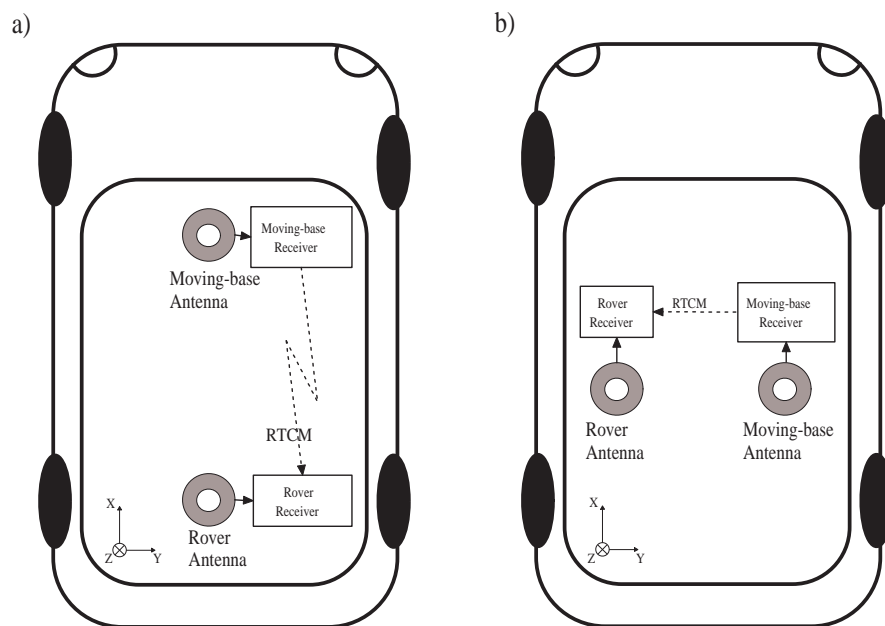

Figure 2-2: Moving-base attitude determination setup. a) default configuration.
The heading and pitch of a vehicle can be derived from the orientation of the baseline between a base and a rover antenna when both antennas are attached to the vehicle. The base antenna is connected to a first receiver configured as RTK moving base station. The rover antenna is connected to a second receiver configured as RTK rover and accepting the RTCM stream from the first receiver. This is illustrated in figure 2-2.
1. Attach two antennas to your vehicle. The default antenna configuration is as depicted in figure 2-2 a). It consists in placing the antennas aligned with the longitudinal axis of the vehicle. If such configuration is not possible, you will have to provide additional information to the receiver, as explained below. For best accuracy, try to maximize the distance between the antennas, and avoid significant height difference between them.
5. By default, the attitude angles are computed assuming that the two antennas are aligned with the longitudinal axis of the vehicle, and that the moving-base antenna is in front of the rover antenna (see figure 2-2 a)). If you cannot place the antennas in such configuration, the reported attitude angles will be biased. There are two ways to remove these biases:
- (a) The biases can be removed by telling the receiver where the moving-base antenna is located in the vehicle reference frame (see appendix A). This is done by specifying the coordinates of the baseline between the rover ARP and the moving-base ARP in the X, Y and Z directions. For example, in the configuration b) of figure 2-2, assuming that the distance between the antenna ARPs is 1 meter, you would issue (on the rover receiver):